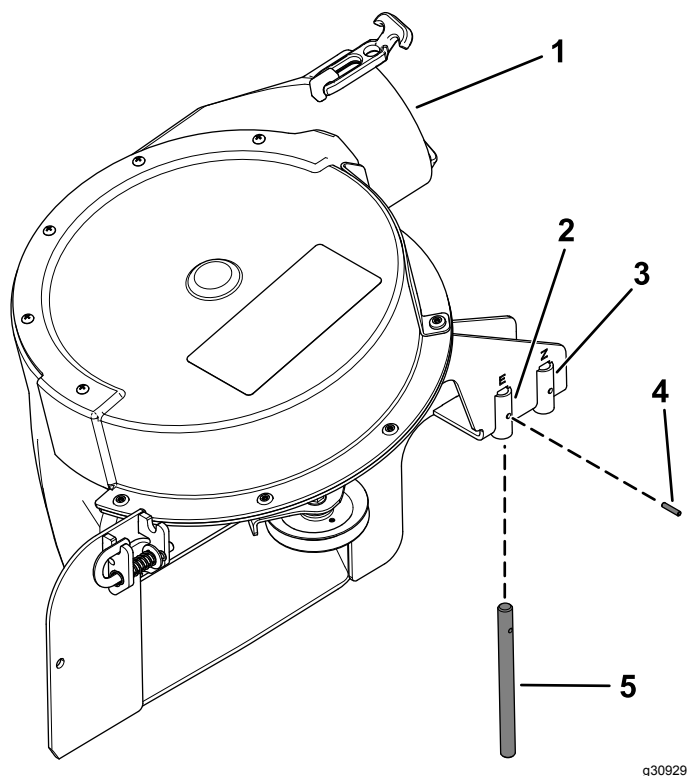

Figure 39
Verify that the pivot pin is secured on the blower assembly in the correct location (Figure 39).
- If you have a 48-inch or 52-inch mower deck, install the pivot pin in the front hole (Figure 39).
- If you have a 60-inch mower deck, install the pivot pin in the rear hole (Figure 39).